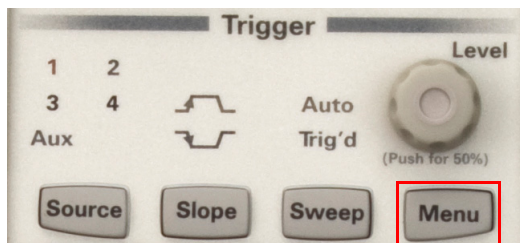

Figure 2-40 Menu button in the Trigger section
- 1 To configure the trigger settings, use the individual buttons and knob in the Trigger section, or press  to access the Trigger Setup dialog as shown in Figure 2-40.